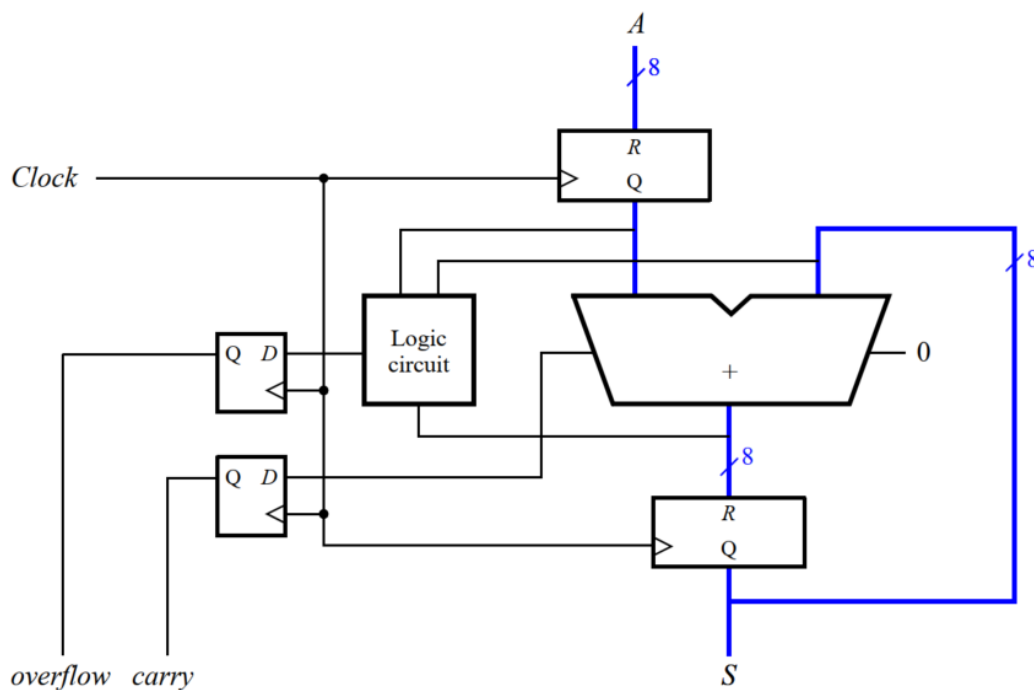

Figure 1: An eight-bit accumulator circuit.
**Requirement:** The circuit in Figure 1, which is often called an *accumulator*, is used to add the value of an input A to itself repeatedly. The circuit includes a carry out from the adder, as well as an *overflow* output signal. If the input A is considered as a 2's-complement number, then *overflow* should be set to 1 in the case where the output *sum* produced does not represent a correct 2's-complement result.
- Write System Verilog code to describe the circuit given in Figure 1.